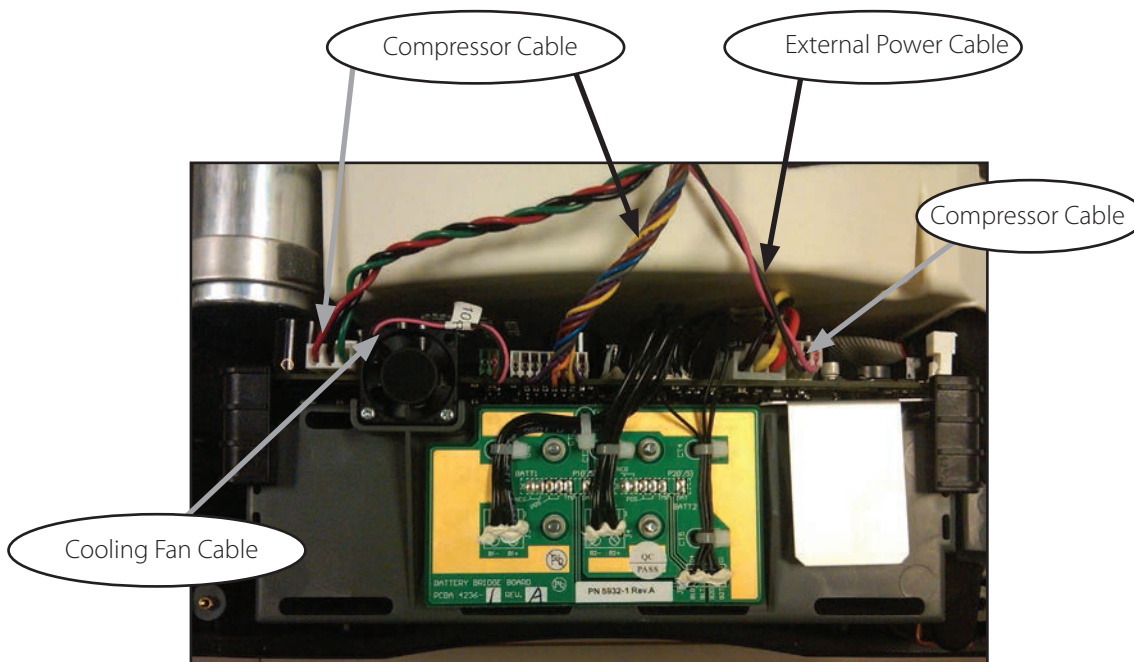

Fig 48: Cable locations
1.3 Disconnect the 5 wire harnesses as shown in Figure 48.